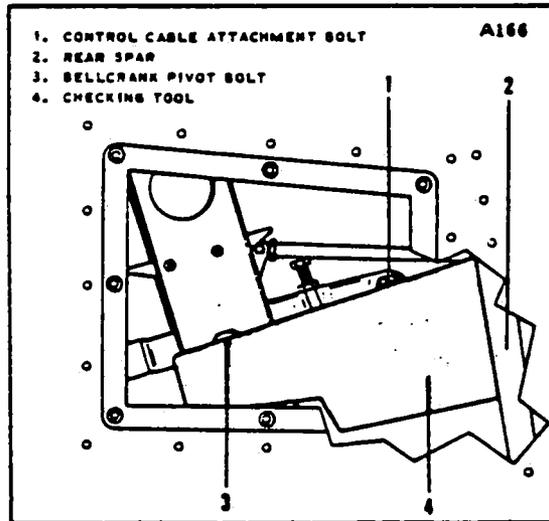

Figure 5-3. Installation of Bellcrank Checking Tool
- 3. Check bellcranks for neutral position by aligning bellcrank pivot bolt with rear cable attachment bolt using fabricated checking tool as shown in Figure 5-3. (This tool may be fabricated from dimensions given in Figure 5-17.)